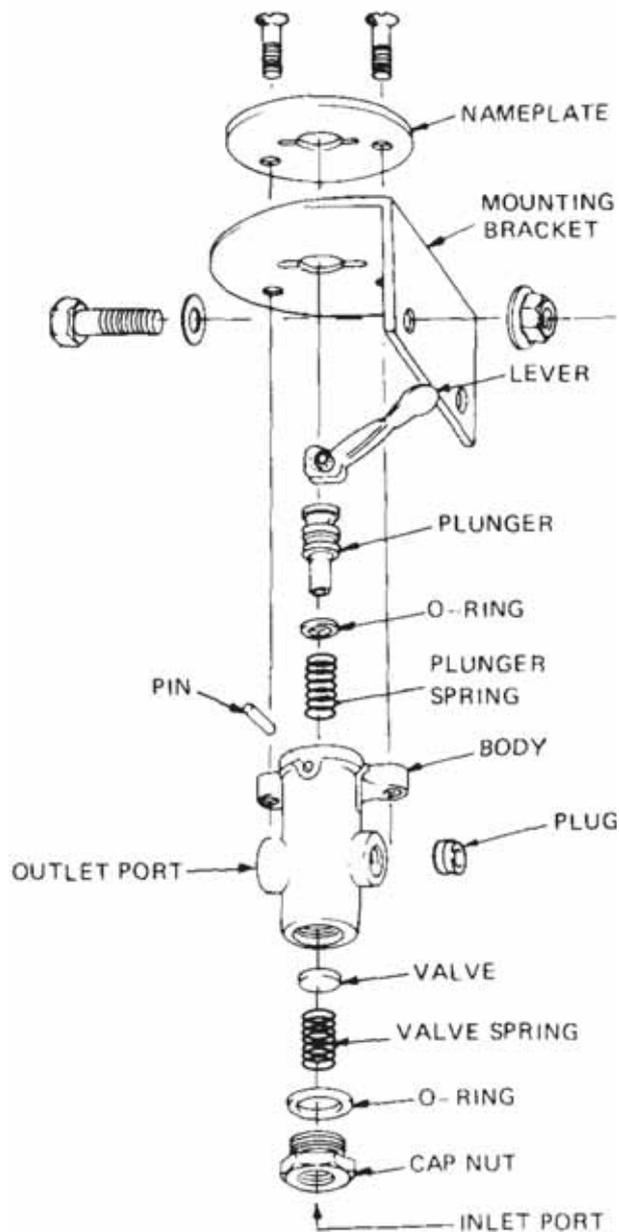

Figure 13 Tailgate Lock Valve – Exploded View
21. Air supplied via the pressure protection valve is applied to the inlet port of the tailgate lock valve (Figure 13), which is situated under the dashboard to the right of the driver.